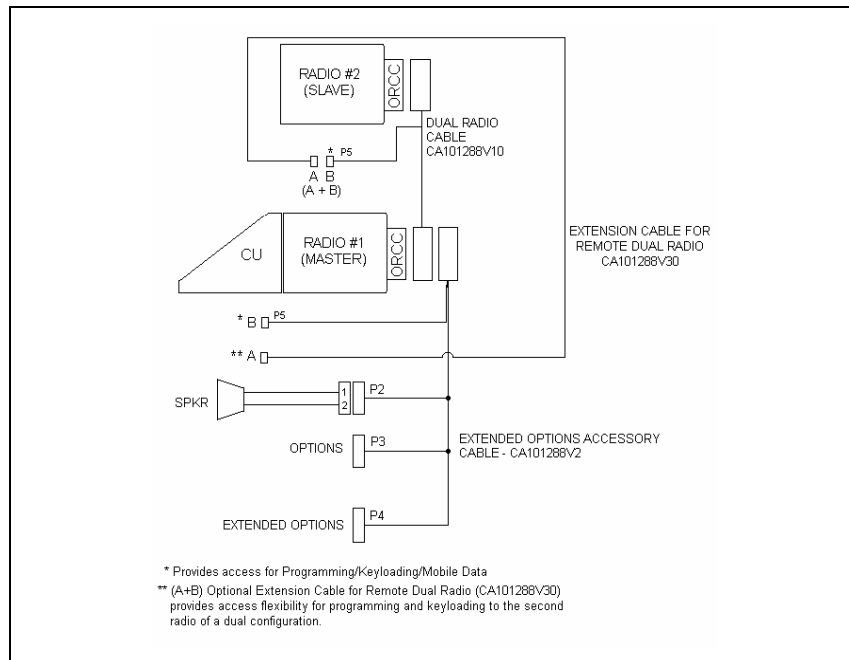

Figure 12-1: M7100 Dual Radio Front Mount/Remote Mount Installation Configuration
1. Plan the mounting locations of the two Radio Units. Note that the maximum cable length allowed between the two radios is two meters. Run Dual Radio Cable (CA101288V10) between locations for Master and Slave Radio Units (refer to Figure 12-1). Be sure to locate the P2/P3 connector assembly at the Master Radio Unit.